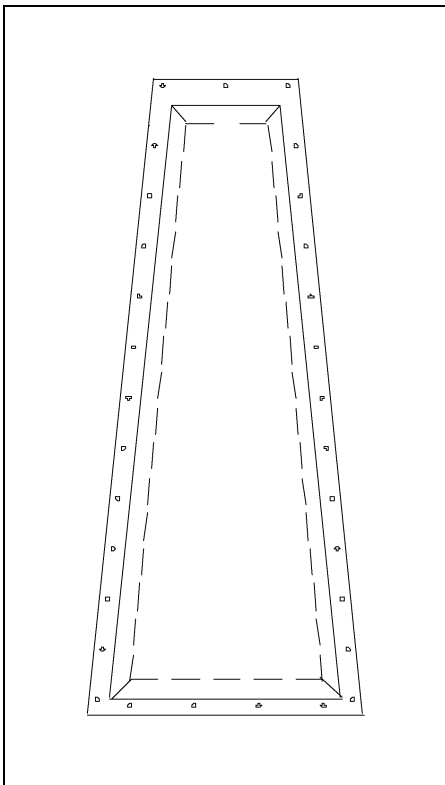

Figure 5F *The Cutline for Roof Sheet Adapter.*
5. Mark a cutting line 3/4" inside the template. Then remove template. Drill through the mark, cutting a hole in the roof sheet (*See Figure 5F*).